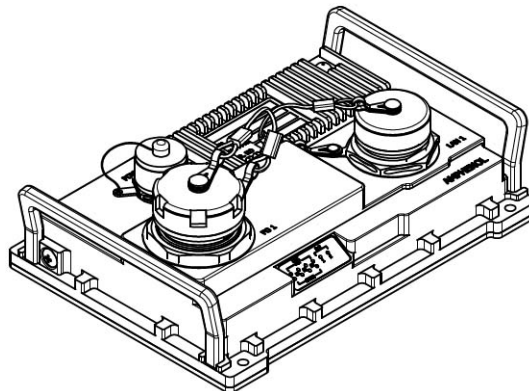

Figure 1 : RESGMC 1S 100 RJF 1TACB OD DC
1. Prepare the cable for termination process and slide onto the cable the items in the order shown on figure 1.